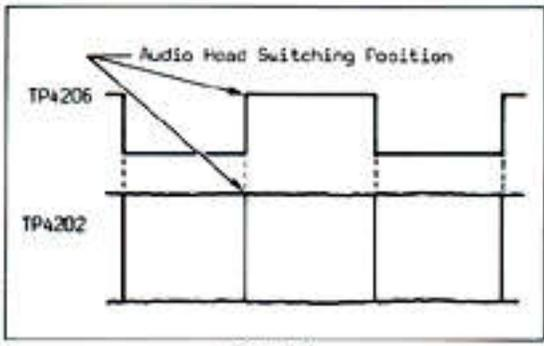
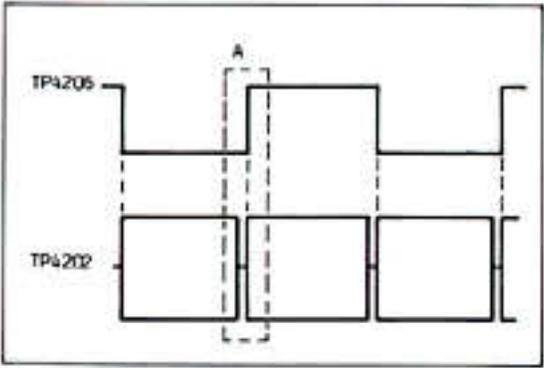

Fig. E10
Fig. E11
1. Playback the portion just recorded and confirm that the envelope at TP4202 is as shown in Fig. E10.
2. If the envelope has a drop out (A-portion in Fig. E11), adjust the AUDIO HEAD SW (R4281) so that the audio envelope has no drop out portion as shown in Fig. E10.